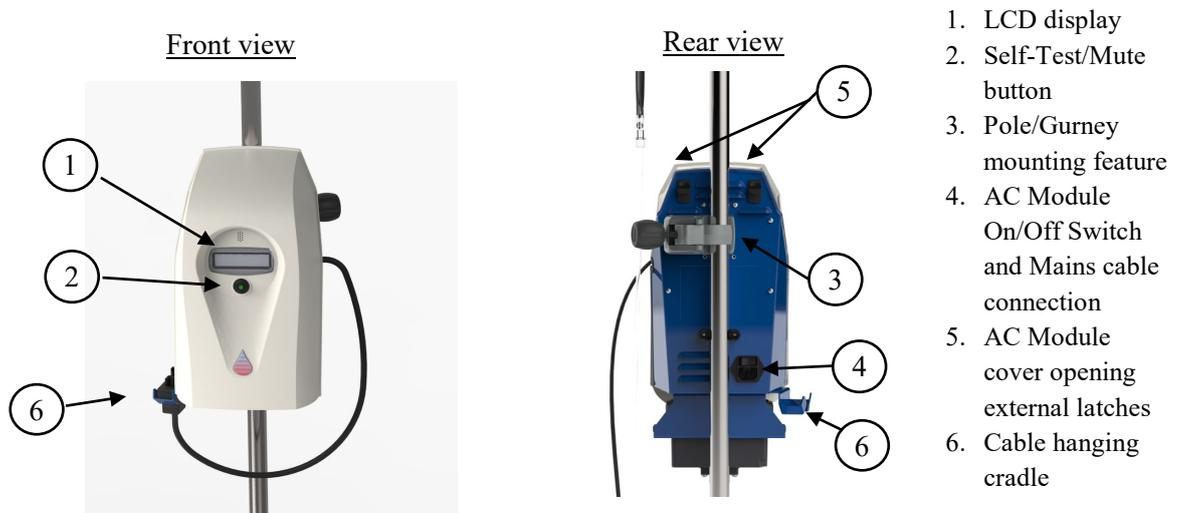
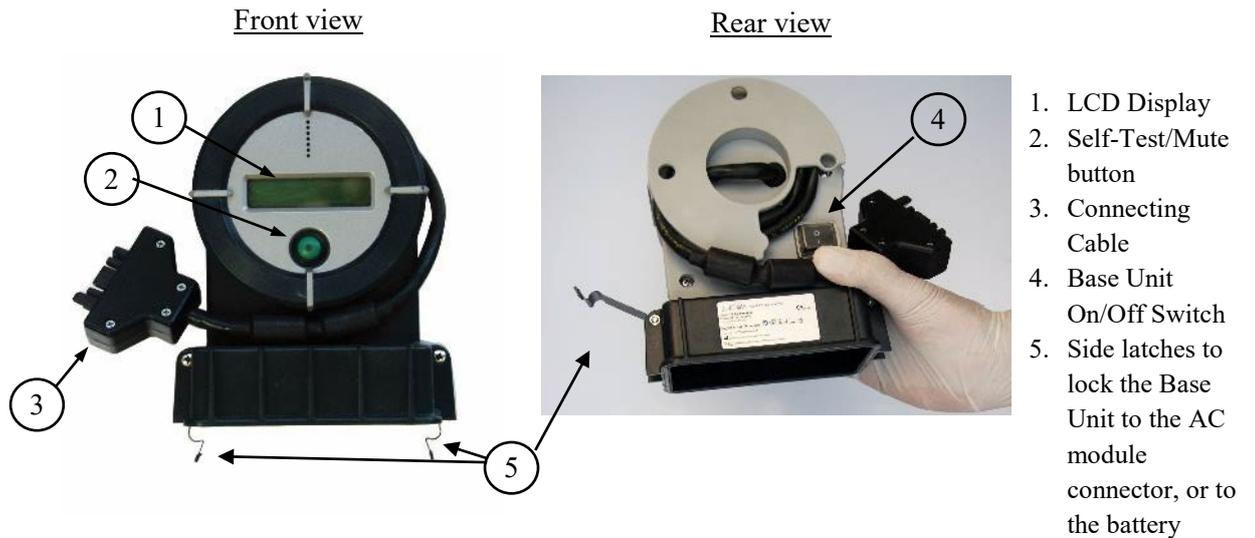

Figure 1. AC Power Supply Module front and rear views
Figure 2. Base Unit front and rear views
The **Warrior AC Module** (see figure 1 below) with the Base Unit* and Compact Disposable Unit* is an inline, AC-powered device for warming blood, blood products and IV fluids. The Warrior AC Module with the Base Unit* and Compact Disposable Unit * can be used to help prevent hypothermia.
<p>b.</p>	<p>Open the AC Module by pressing the two external latches on the back side (no. 5 in figure 1).</p> <p>Unroll the Base Unit cable to its full length.</p> <p>If the Base Unit is connected to a battery, remove the battery from the bottom edge of the Base Unit.</p> <p> WARNING! Make sure that the AC Module interior part is free of fluids and foreign objects</p> <p>Insert the Base Unit into the AC Module and properly attach the side latches (item 5 in figure 2) of the Base Unit to the AC connector.</p>